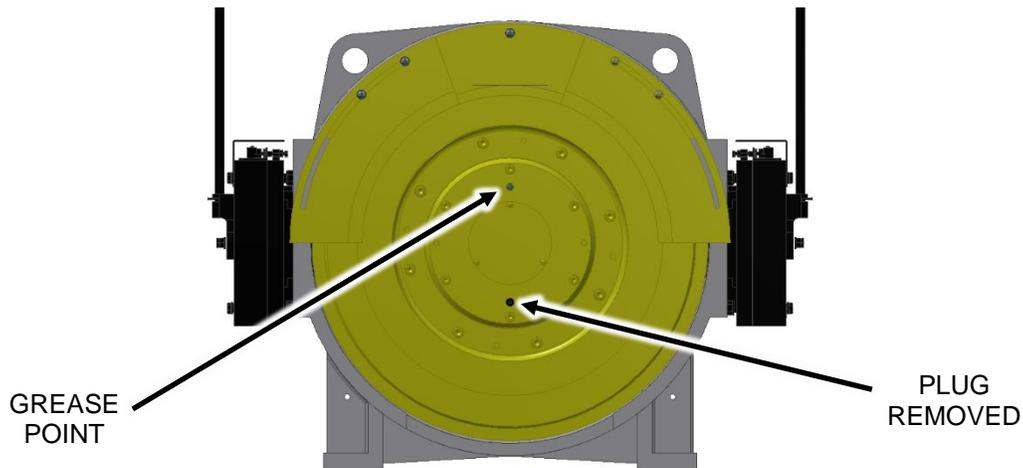

Figure 16
2. The grease point is opposite the relief plug. See Figure 16.